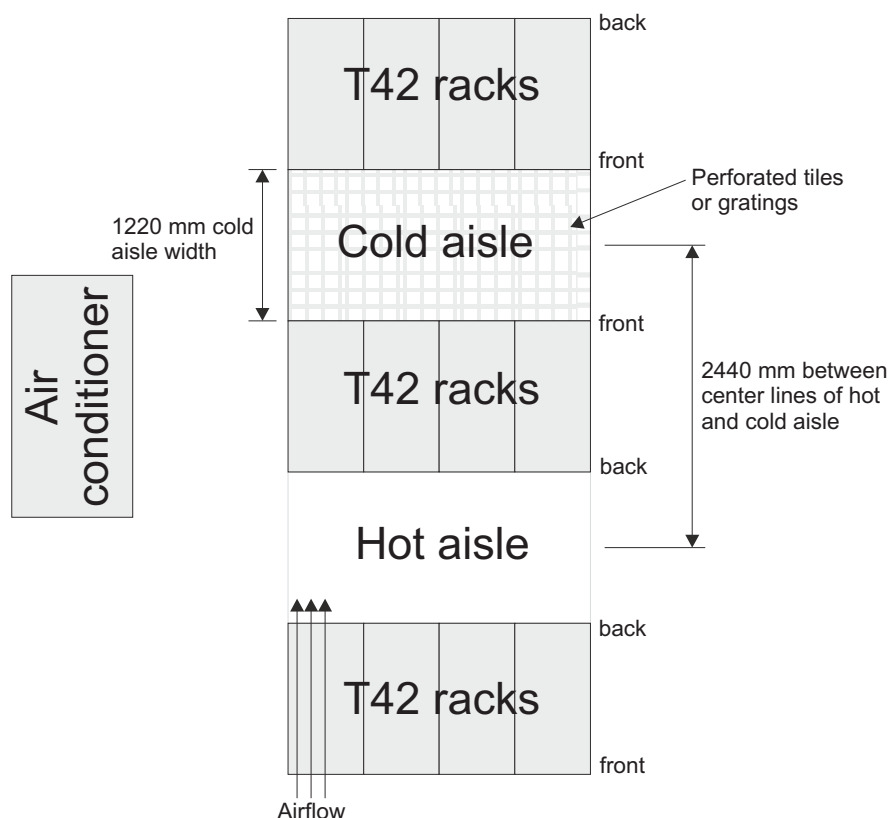

Figure 8. Example of cold aisle/hot aisle rack configuration
- Air enters at the front of the rack and leaves at the back. To prevent the air that is leaving the rack from entering the intake of another piece of equipment, you must position the racks in alternate rows, back-to-back and front-to-front. This arrangement is known as “cold aisle/hot aisle” and is shown in Figure 8 on page 24.